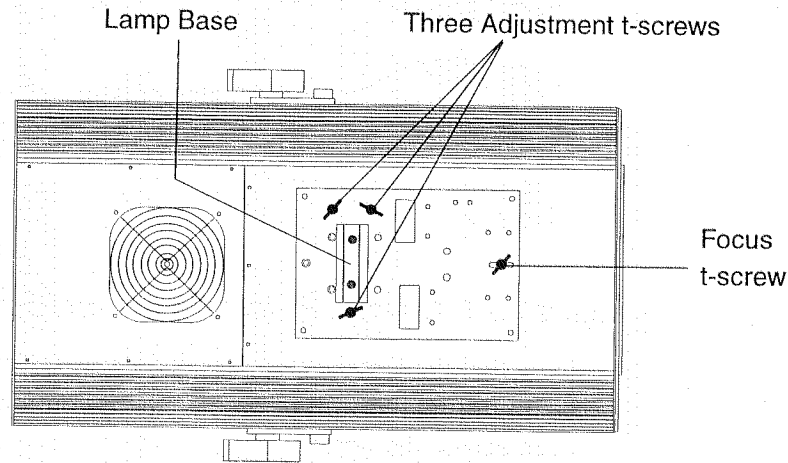

Figure 2.19. emulator Fixture Underside with Door Removed
9. Locate the three adjustment t-screws on the underside of the fixture beneath the lamp base. Refer to Figure 2.19.